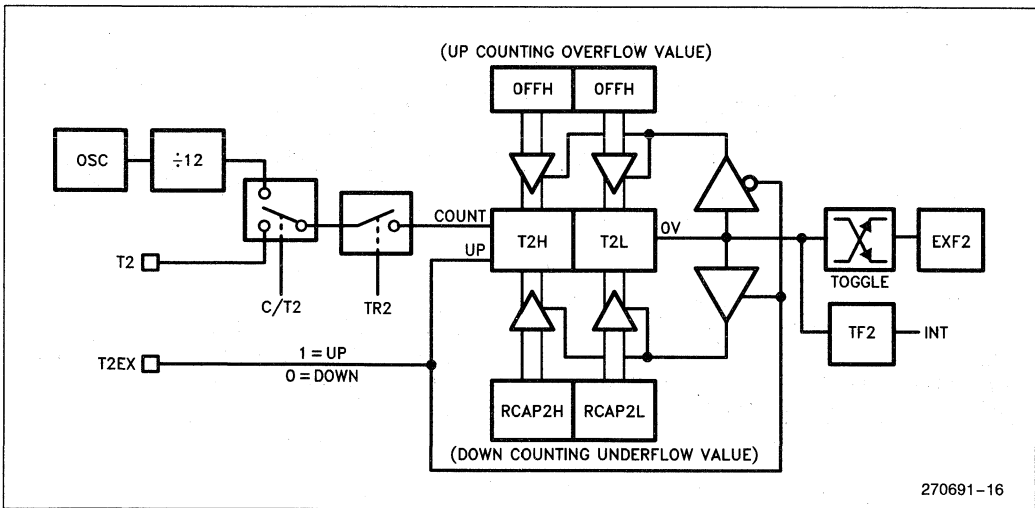

Figure 12. Timer 2 Auto Reload Mode when DCEN = 1
When DCEN is set (1), the Timer 2 Auto-Reload Mode takes the form shown in Figure 12. The T2EX pin now controls the direction of count. A logic 1 at T2EX makes Timer 2 count up. A logic 0 at T2EX makes Timer 2 count down. Also, the EXF2 bit toggles every time Timer 2 overflows or underflows. In this operating mode, the EXF2 bit does not flag an interrupt.